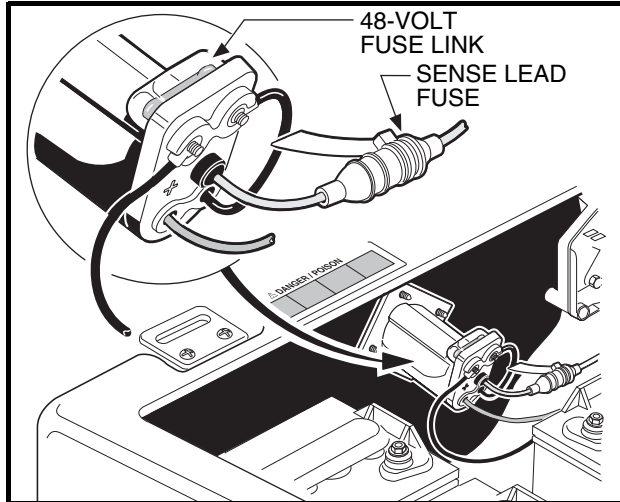

Figure 13 Receptacle Fuse Link
Tourall and Resort Villager vehicles: As an additional feature to protect the batteries and charging circuit from an overload, the electric vehicle is equipped with a receptacle fuse link (**Figure 13, Page 27**). If the charger does not come on when the vehicle is placed on charge, visually inspect the fuse link. **See following WARNING.**
- NEVER MODIFY WIRING TO BYPASS THE GREY SENSE LEAD FUSE (**FIGURE 13, PAGE 27**).